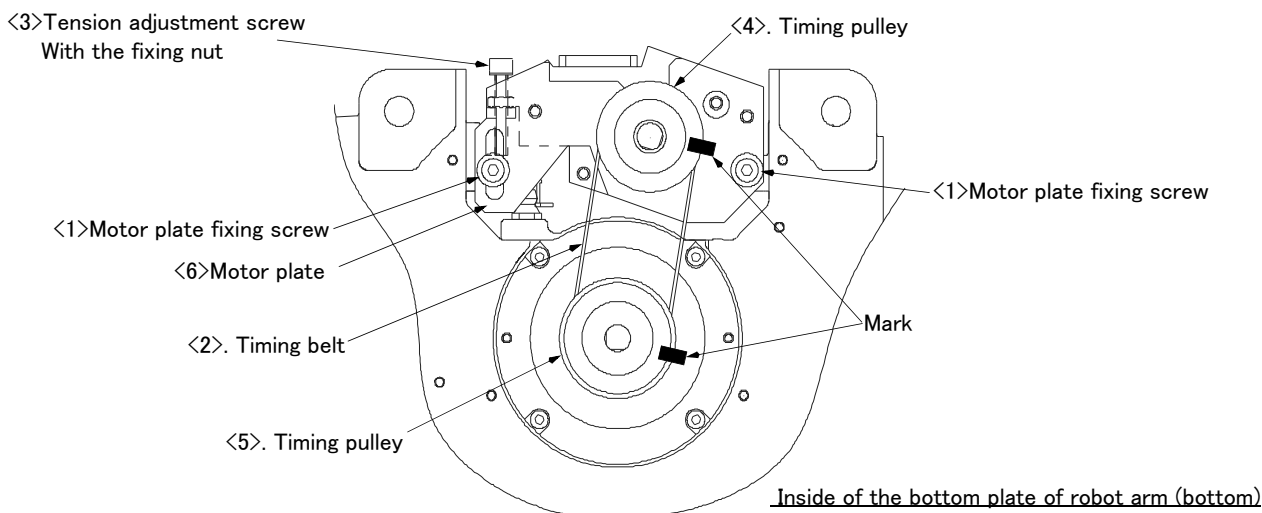

Fig.5-5 : Replacing the J1 axis timing belt
- 5) The image figure inside the bottom plate of the robot arm is shown in Fig. 5-5.
- 7) Make marks on the timing belt <2> and timing pulleys <4> and <5> with a felt-tip pen as shown in Fig. 5-5 so that the engagement of the timing belt <2> and timing pulleys <4> and <5> does not deviate.